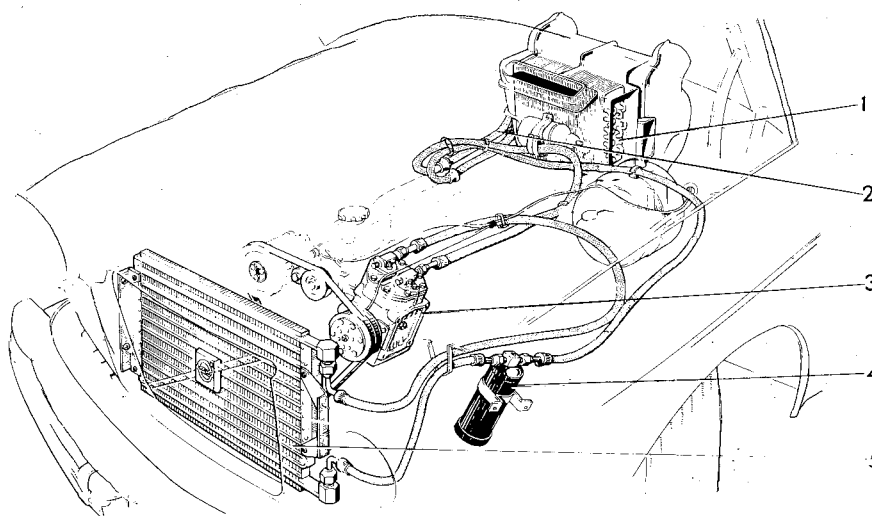

Fig. 8-45. Cooling system
The cooling system in the unit is of the compressor type, which means that the circulation of the refrigerant is carried out by a compressor. The system is divided up into the main components: evaporator (1, Fig. 8-45), thermostatic expansion valve (2) compressor (3), receiver-dryer (4), and condensor (5). The evaporator and expansion valve are placed in front of the heater system cell assembly inside the passenger compartment and the other components in the engine compartment.